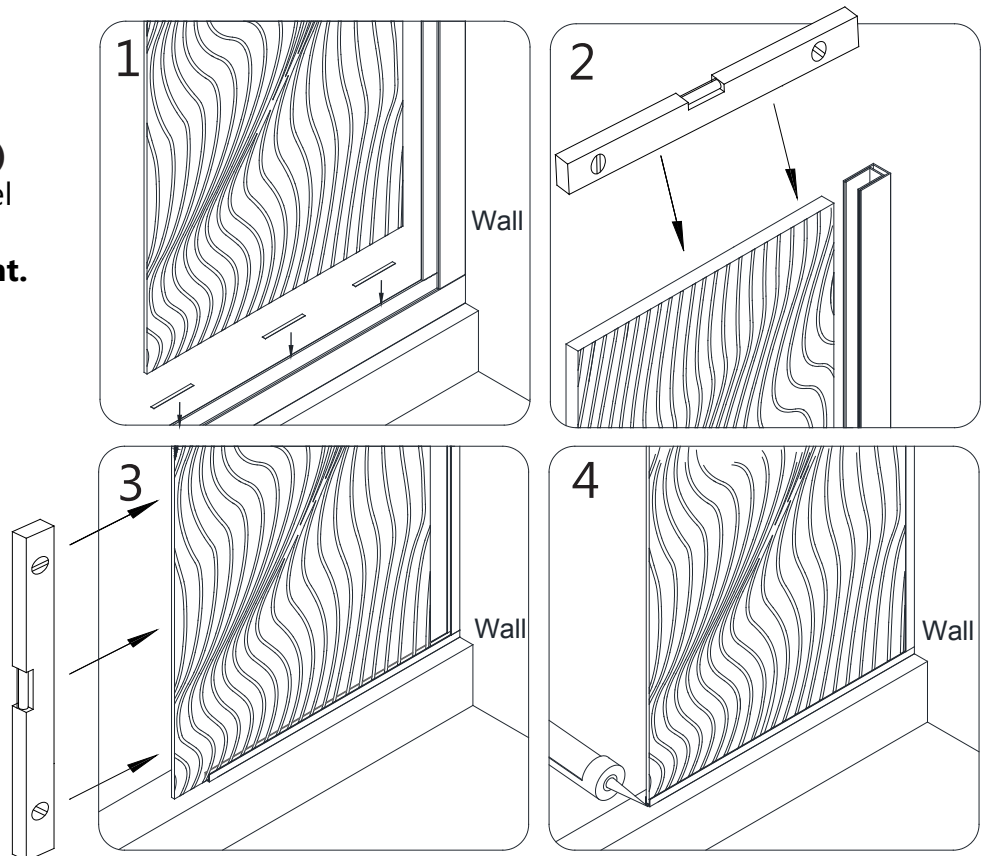

Fig 5
4. Install the **Stationary Glass (#11)** into the **U-channel 2 (#29) (bottom profile)** and the **U-channel 1 (#09) (wall profile)**. Apply a dab of silicone to the exposed end of the **Bottom U-channel (#29)**. **(Fig 5)**